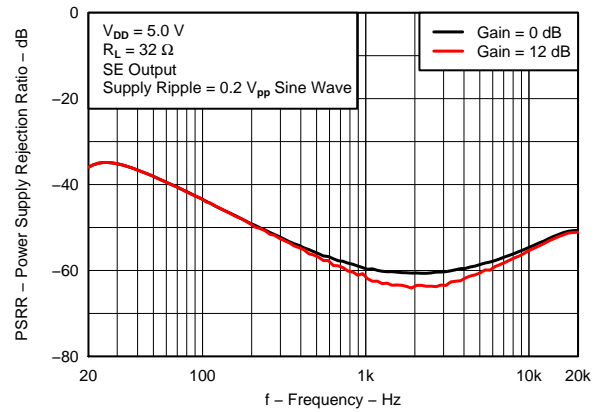

Figure 17.
| PSRR | Power supply rejection ratio (SE) | vs Frequency | Figure 17 |